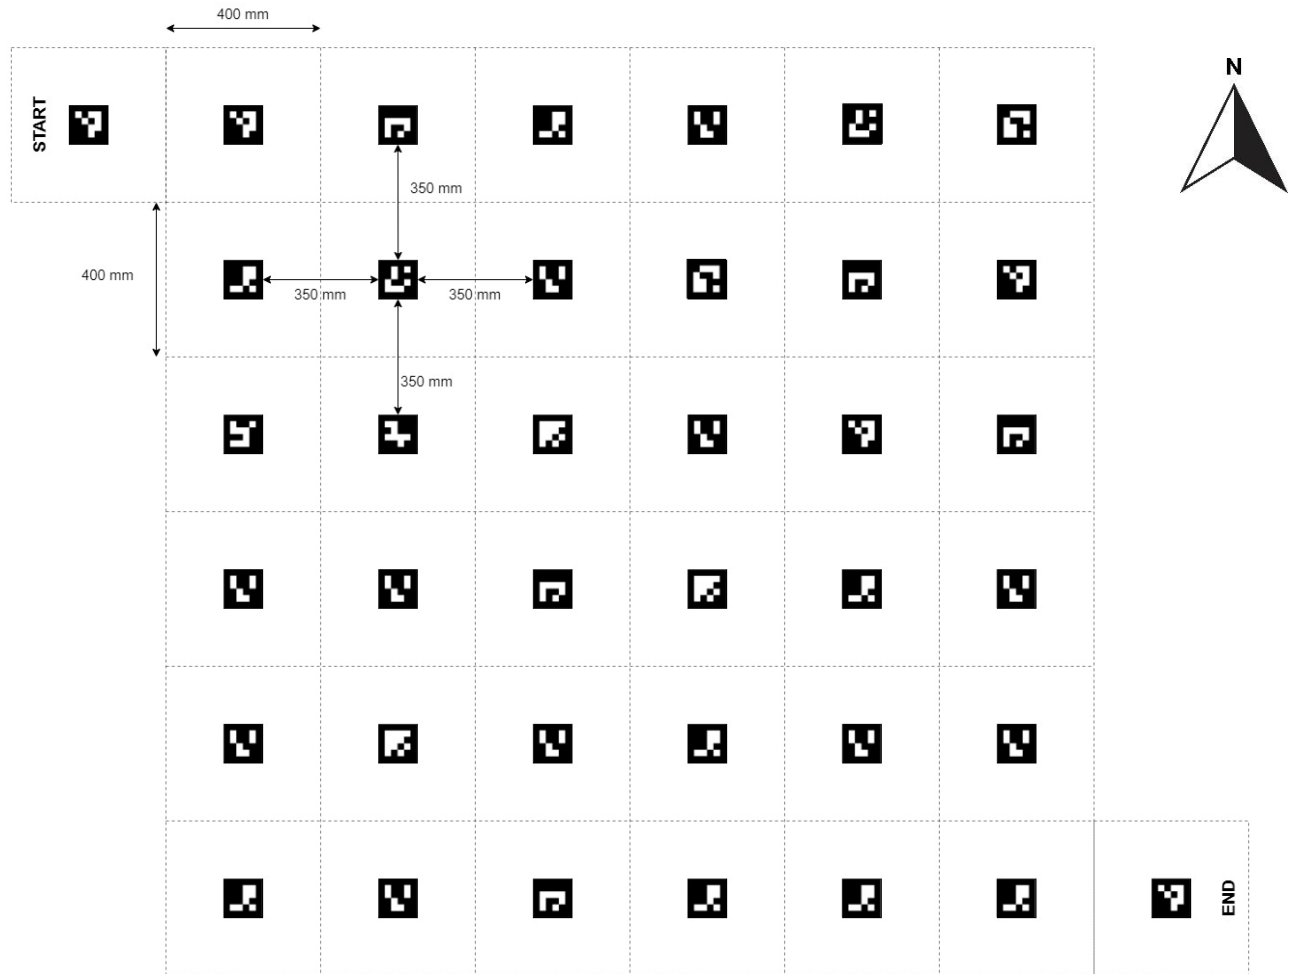

Figure 2 Dimensions of game arena
2. The ArUco markers place on 6×6 matrix game arena as shown in figure 2.